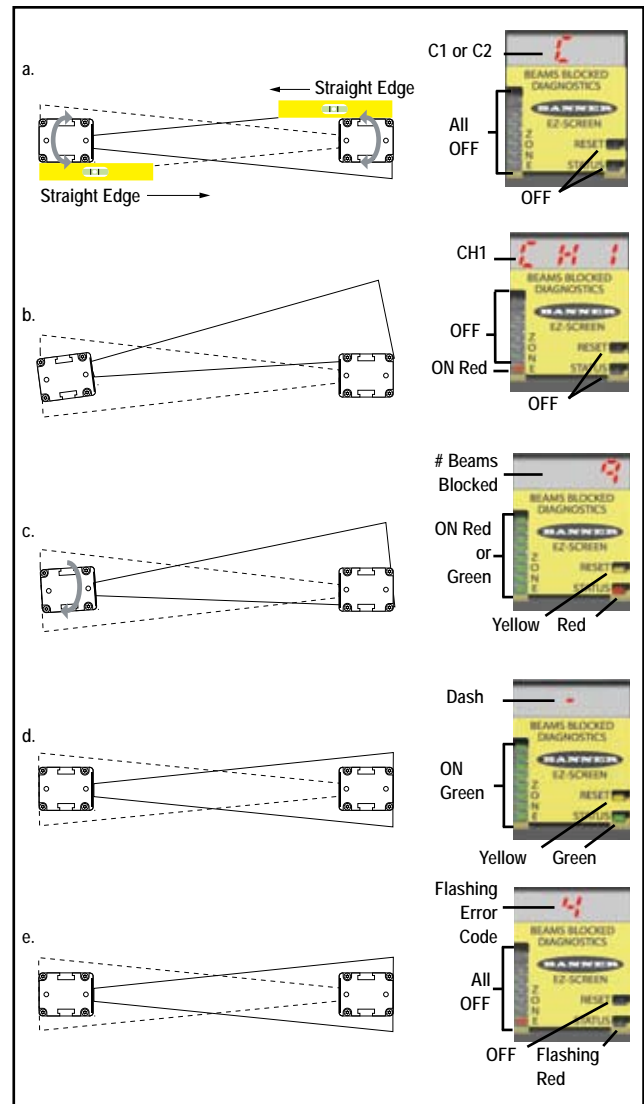

Figure 3-11. Optimum optical alignment
To optimize alignment and maximize excess gain, slightly loosen the sensor mounting screws (x4) and rotate one sensor left and right, noting the positions where the Status indicators turn Red (Blocked condition); repeat with the other sensor (see Figure 3-11). Center each sensor between those two positions and tighten the end cap mounting screws, making sure to maintain the positioning as the screws are tightened. The sensor lenses should directly face each other. Proceed to System Configuration (Section 3.4.2) once optimum optical alignment is verified.
- a. Ensure the emitter and receiver are pointed squarely at each other. A straight edge (e.g., a level) can determine the direction the sensor is facing (see Figure 3-11). The sensor face must be perpendicular to the optical axis.